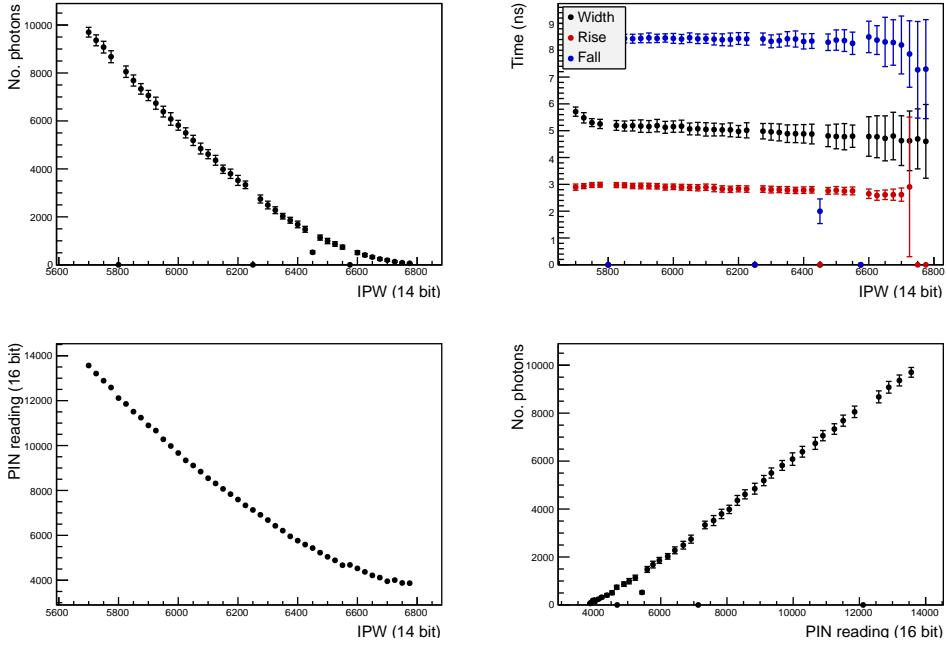

Figure 7: *Master plot as returned from running `plot_ipw.py` on a low intensity data set.*
To generate plots of the low intensity data set, use `plot_ipw.py` as described above. The resulting masterplot will resemble that shown in Figure 7.
- There should be no more than 4-5 missed data points in the low_intensity sweep. You can see in Figure 7 a few data points in the mid-range are set at zero. This is an artefact of an internal glitch in the scope's data acquisition - sometimes it doesn't properly recognise triggers. The scope underground at SNOlab is a more advanced model and I haven't seen this effect with that scope so fingers crossed it won't be a factor - but must be considered all the same!